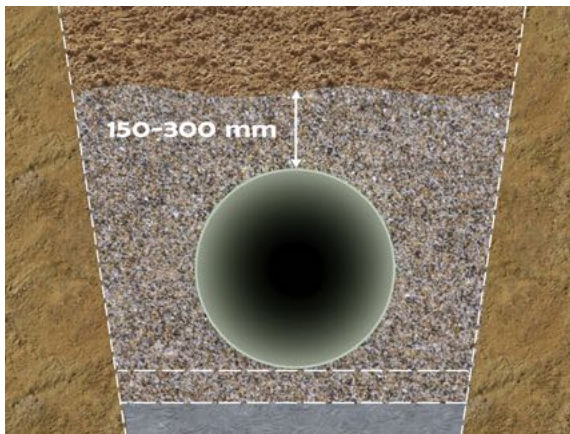

Fig. 39 Installation Type 1
- » The pipe backfill zone is up to 300 mm over the pipe crown and is executed using specified backfill material, compacted to the required relative compaction level (Fig. 39)